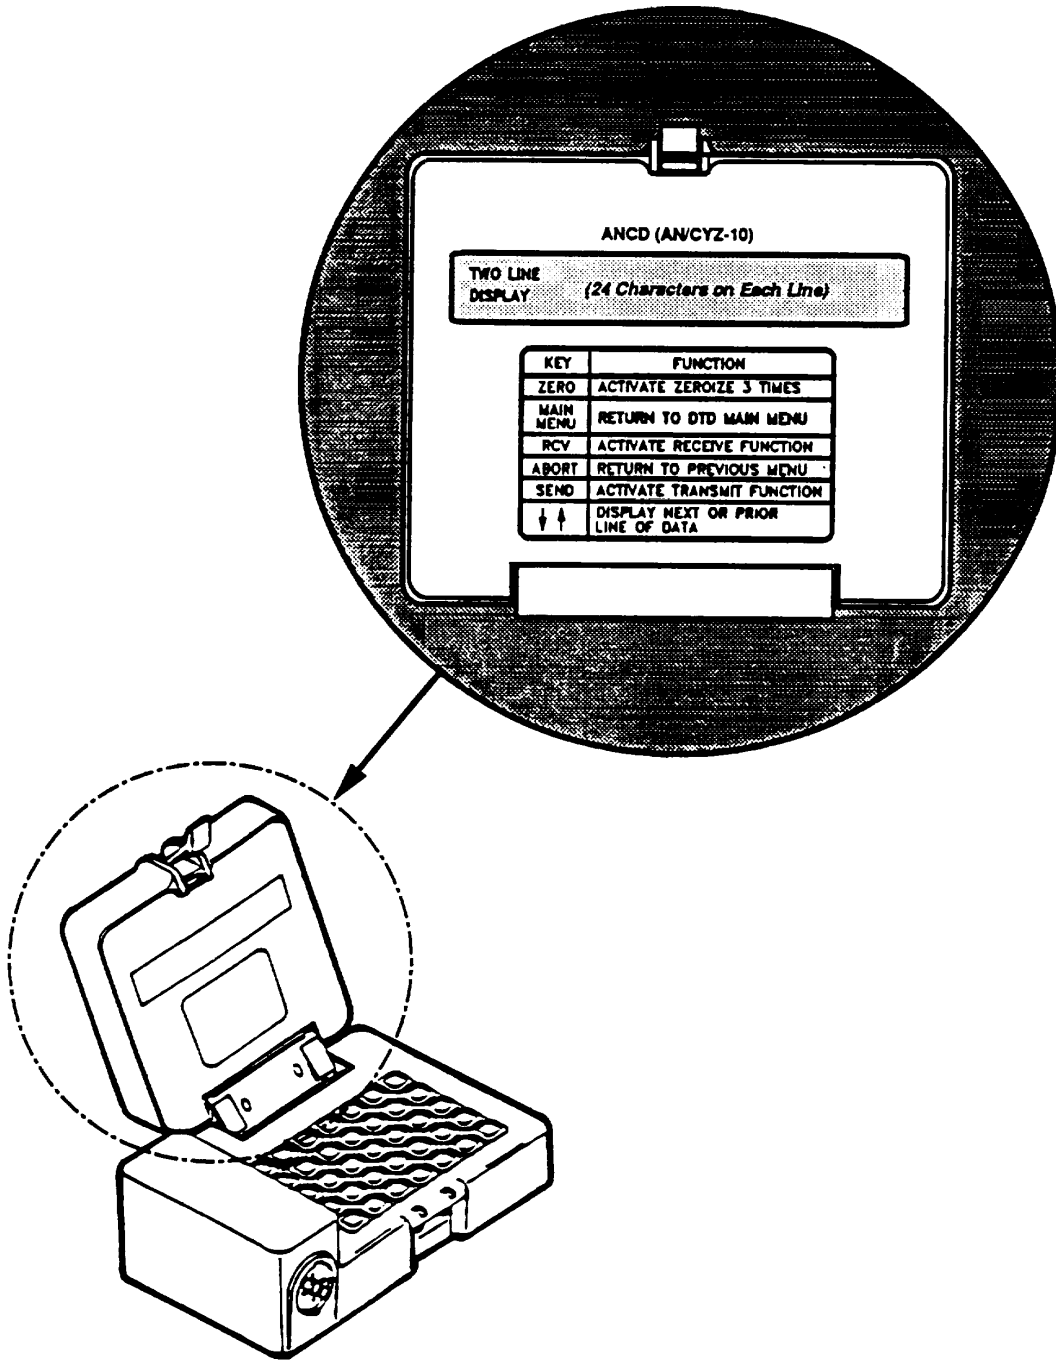

Figure 2-3. ANCD Indicators 2-6
b. Indicators. (See Figure 2-3.)